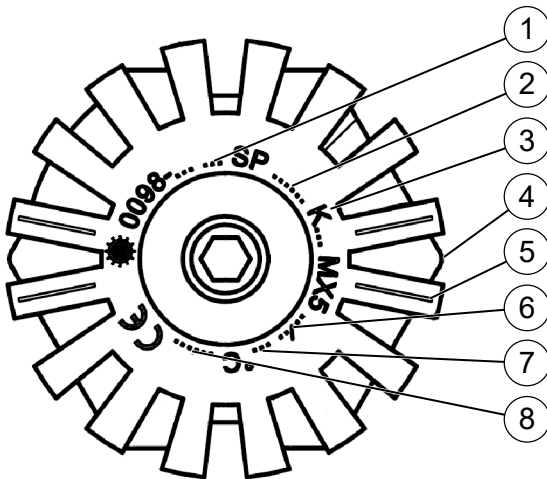

Fig. 2: Sprinkler 21 marking (example)
1. ➔ Check sprinkler marking (Fig. 2).